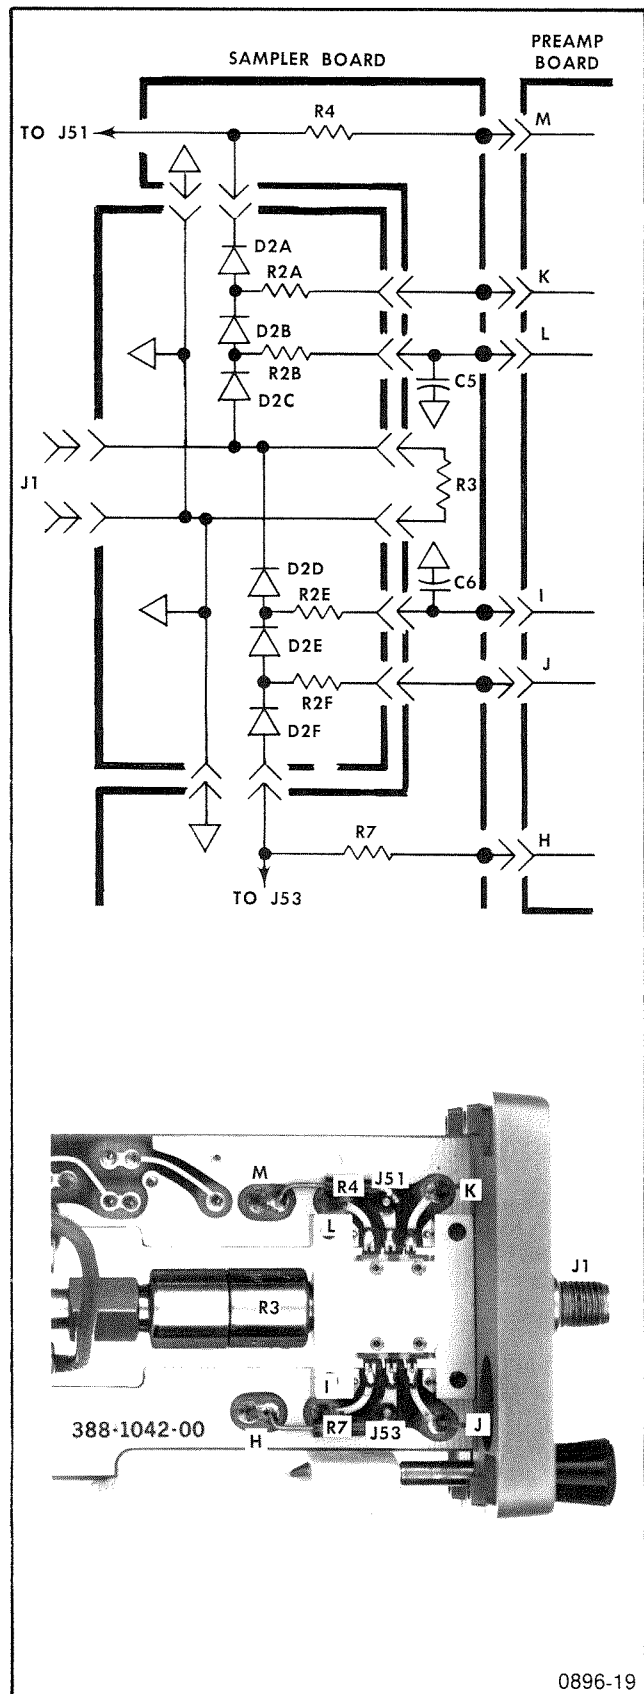
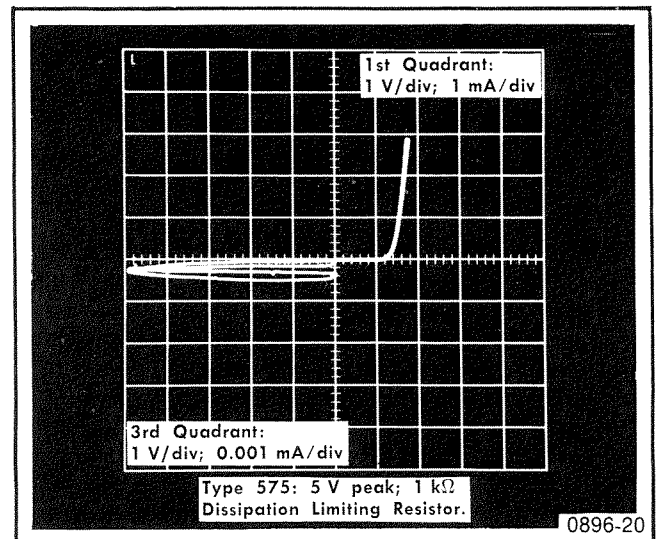

Fig. 5-3. Sampling Gate circuit and test points for checking the diodes.
Fig. 5-4. Type 576 Characteristic curves of forward and reverse voltage conduction of D2A, D2B and D2C. Do not use more than 5 volts peak.
Once it has been decided to check the Sampling Gate diodes, refer to Fig. 5-3 for both the Sampling Gate circuit and test points used in the procedure listed below. The pro-
2. Refer to Fig. 5-3 for testpoints that must be used for checking D2A, D2B and D2C in one group of D2D, D2E and D2F in a second group. For the first group, the curve tracer positive lead is to be attached to J53. Attach the negative lead of the first group to J51. When checking the second group ground the negative lead. These polarity connections test each group of three diodes for their forward conduction in the curve tracer first quadrant as shown in Fig. 5-4.
5. Connect the E lead to the Sampling Gate terminal J51 and the C lead to ground. The Type 576 display should now be like the first quadrant display of Fig. 4-4. If the display shows slightly more than 1.2 volts flat display and then a rising portion like Fig. 5-4, the three diodes D2A, D2B and D2C are operating correctly in the forward direction. Check
6. Move the test leads so the E lead is touching the sampling head ground and the C lead is touching J53. The display should be the same as that in the first quadrant of Fig. 5-4.
8. The set-up of part 7 gives a vertical deflection factor of 0.001 mA/Div, and will probably include some hum loops as shown in the third quadrant of Fig. 5-4.